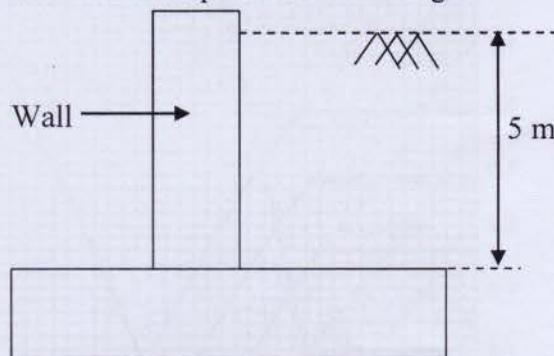

Figure 5. Retaining wall
- b. A reinforced concrete cantilever retaining wall of hilly area as shown in **Figure 5** is subjected to lateral load due to soil and pore water pressure. Design the wall for bending moment and check for shear. The density of soil and water is 1800 kg/m³ and 1000 kg/m³ respectively, coefficient of active soil pressure is 0.33. Because of pore water, 30% water pressure could be used to analyze the wall. Assume required data to design. [15]